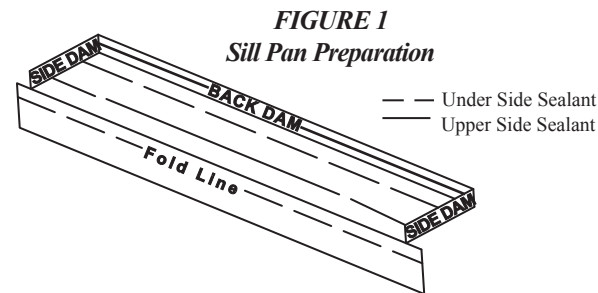

FIGURE 2
- M: Apply compatible sealant around the perimeter of the unit where the nailing fin meets the exterior frame of the window and tool smooth. (See Figure 2 for location.)